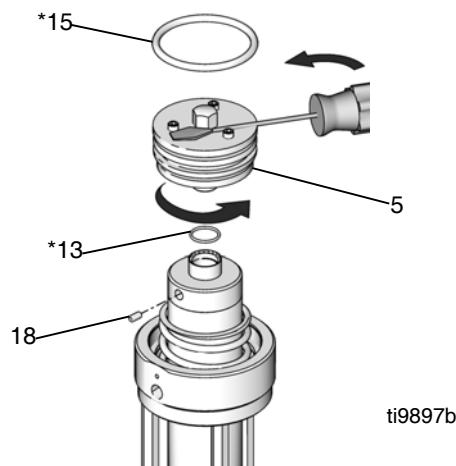

FIG. 11: Series A Air Valve
**NOTE:** Cap (1) was replaced with a spring stop assembly for improved spring life. Existing pumps can be upgraded with Kit 24T043.
3. **Series A air motors only:** Loosen set screw (18) and unscrew air valve (5). If necessary to assist turning, wedge a screwdriver blade between the screw heads and the hex cap of air valve (5). Discard items 5, 13, 15, and 18. See FIG. 11.